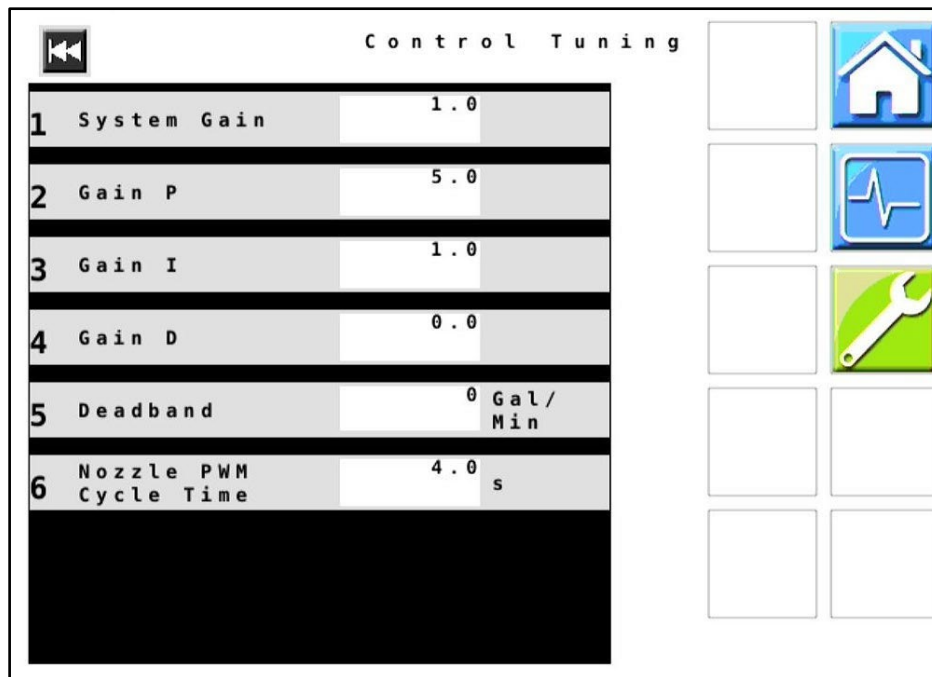

Figure 19 — Control Tuning
33. **Figure 19:** Verify that all values displayed on your unit match those shown here. Change values if necessary.